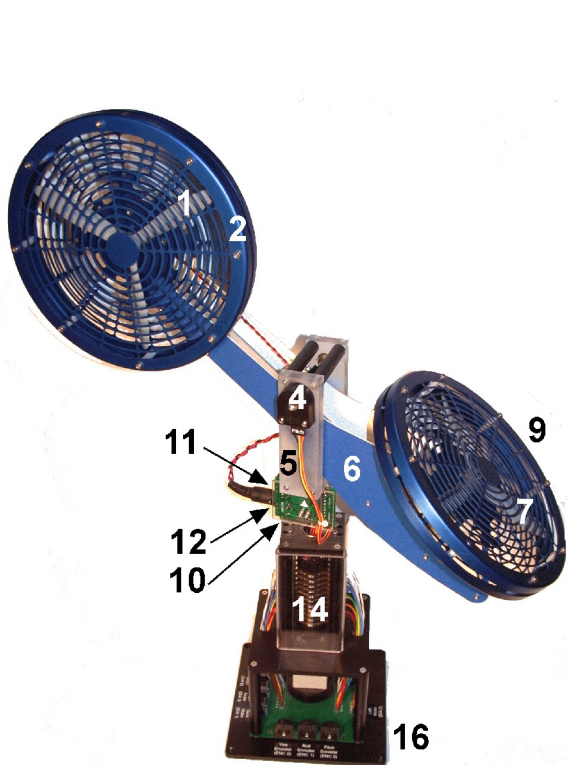
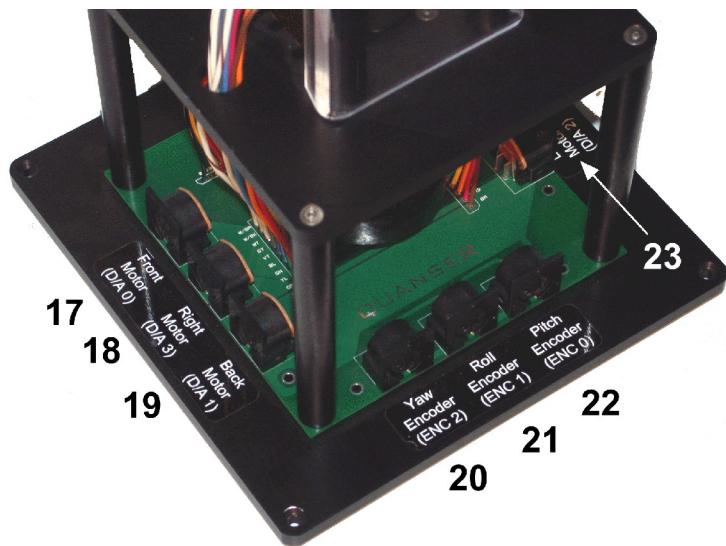

Figure 2: 2 DOF Helicopter components
Figure 4: 2 DOF Helicopter base components.
The components comprising the 2-DOF Helicopter system are labeled in figures 2, 3, 4, 5 and 6, are
1. Place the support base, component #16 shown in Figure 2, on a table or on the floor.
2. By holding the front and back of helicopter body, component #6, place the yoke, component #5 in Figure 2, on the top of the base. Ensure the white arrow labels on the circuit board, ID #10 in in Figure 4, and the frame are aligned. Once fitted, tighten the two thumb screws.
4. The standard setup and starting position for the 2-DOF Helicopter system is depicted in Figure 2, above.